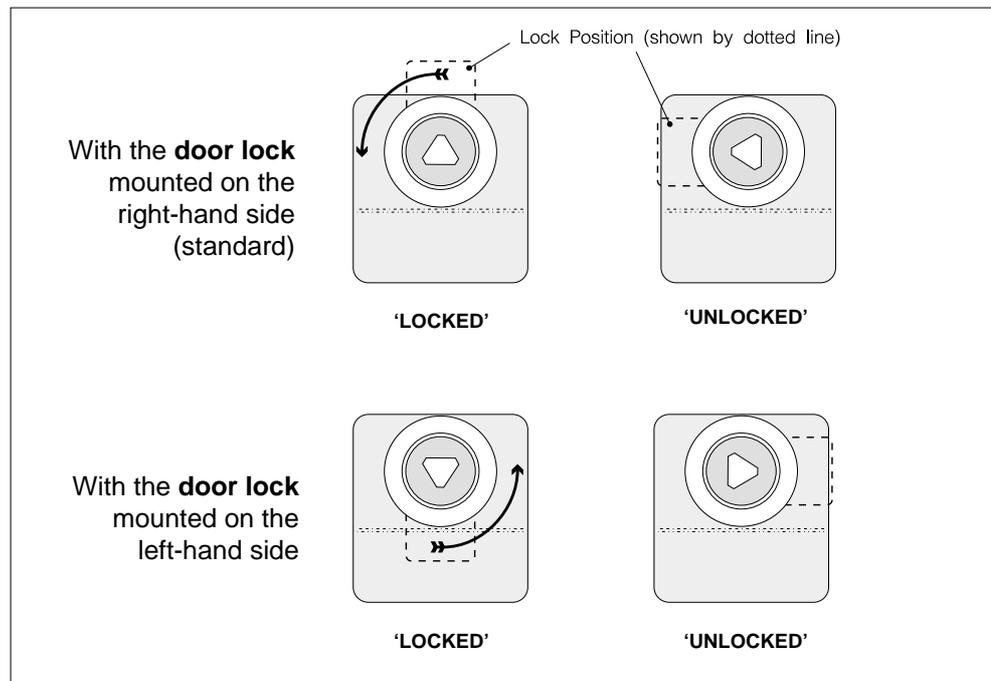

Fig.2-3: Door lock mounting positions.
5. Transfer the lock and finger plate to the opposite side of the door in place of the hole plug (which should be transferred to the vacant hole). Ensure that the lock is orientated correctly before fixing (see Fig.2-3).